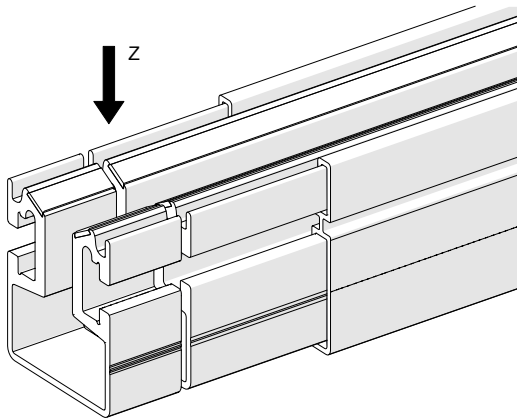

Fig. 51: ProfiDAT rail cutting direction
- The cutting direction (Z) must be from the open side of the rail, i.e. from top to bottom (see Fig. 51).